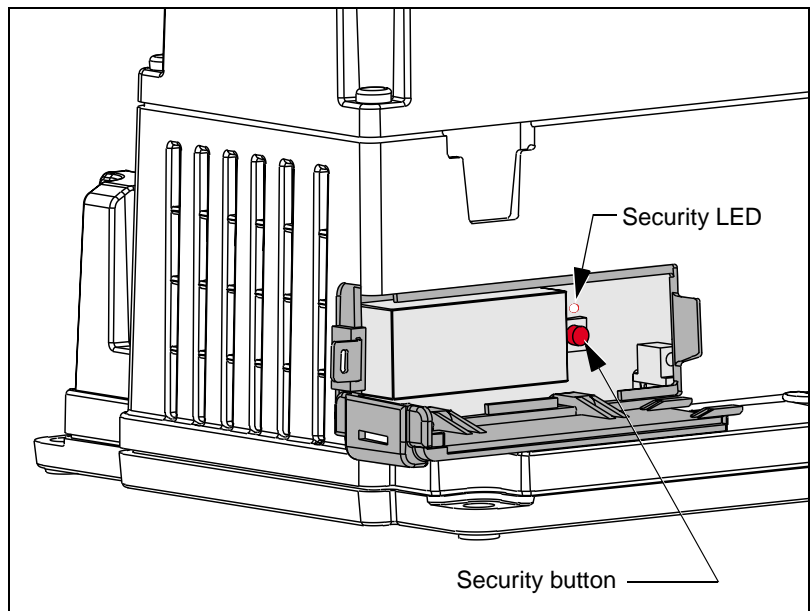

Figure 4-16 Security button location
3. To discharge static, place one hand momentarily on any grounded metal surface, then press and hold the security button until the LED is lit (see Figure 4-16).